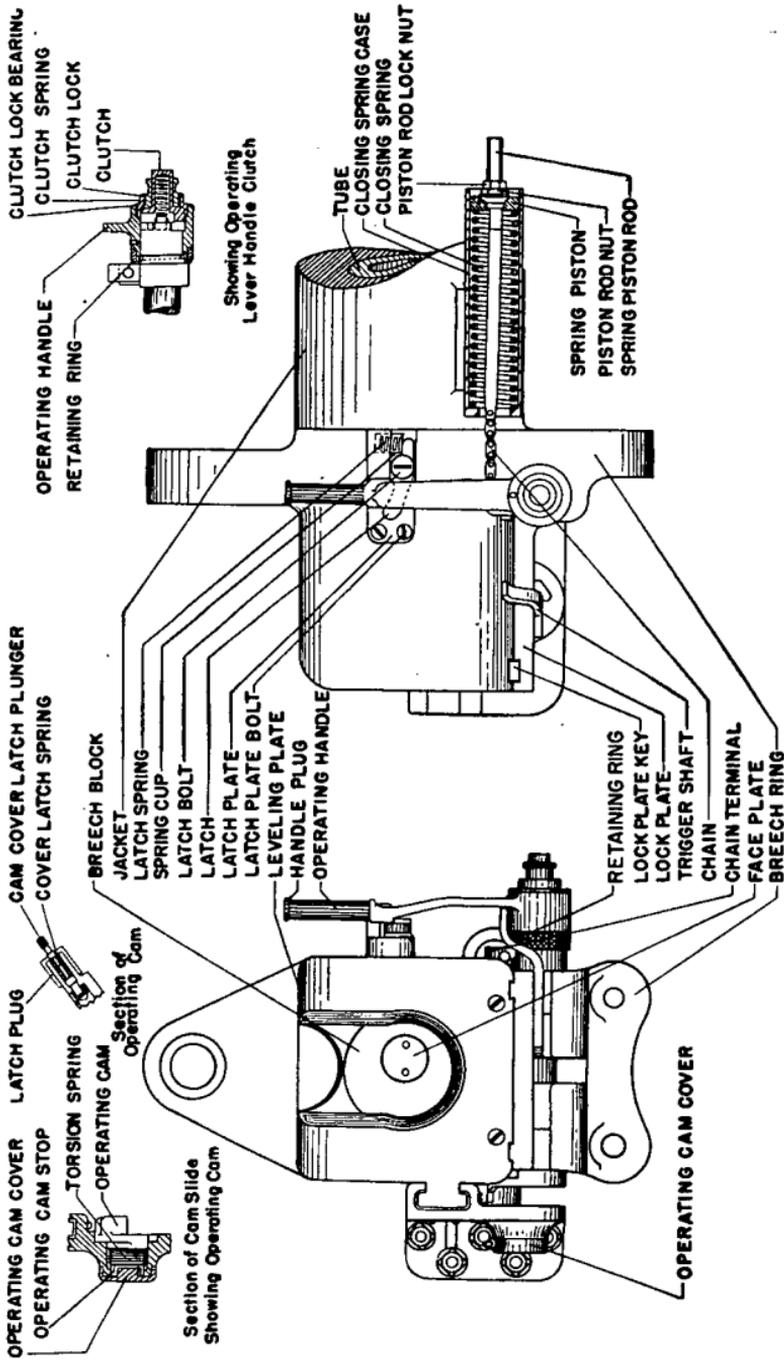

FIGURE 12.—Breech mechanism assembly, 3-inch anti-aircraft gun, M 1917.
*b.* An eyebolt is screwed in the top of the breechblock and a rope attached thereto. The lock screw for retaining ring (fig. 12) is removed, and the retaining ring turned clockwise (forward) until the operating handle is free to be pulled off the operating lever. After the handle is removed, the breechblock is raised. Meanwhile, another man takes a firm hold on both ends of the operating lever and, as the breechblock rises, pushes the operating lever as far to the rear as the breechblock will allow, thereby disengaging the T-shaped cam from its groove in the breechblock. The breechblock is pulled up as far as it will go and the operating lever removed